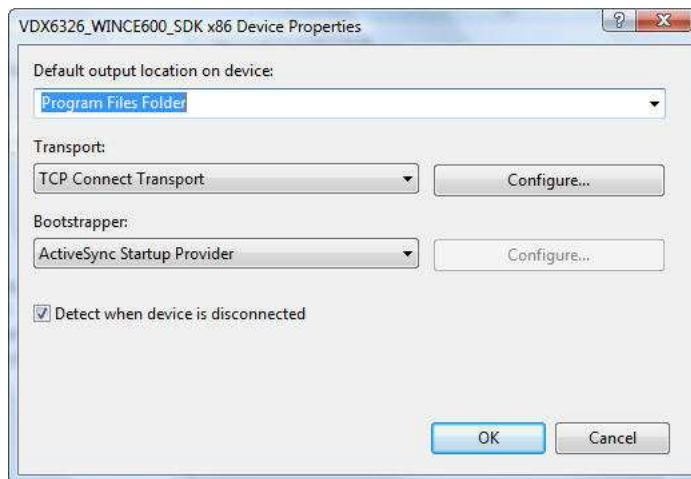

Fig. 57 - VDX6326_WINCE600 x86 Device properties
- Click on the **Properties** button to bring up **VDX6326_WINCE600 x86 Device Properties** setting screen, as shown in Figure 57.